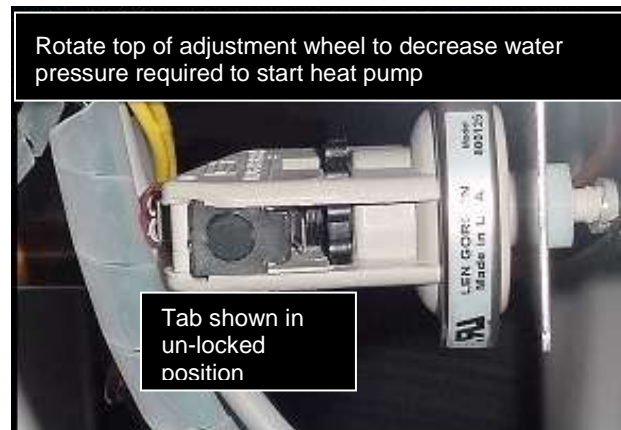
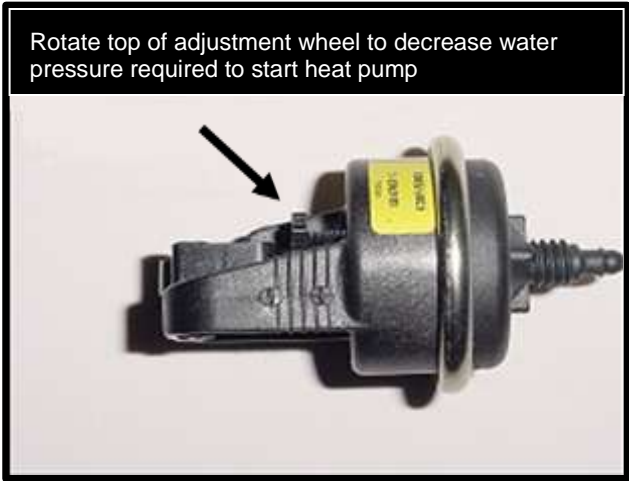

Figure 22
Figure 23
- Identify type of switch to adjust (“Len Gordon” or “TecMark”). To determine which brand pressure switch is installed compare water pressure switch in heat pump to Figure 22 and Figure 23. Follow the adjustment procedure for the appropriate switch.
- 1) Locate black rectangular plastic tab, located on forward-facing side of the switch. See Figure 22. The black rectangle is a wheel lock tab.
- 1) TecMark switches do not have an adjustment wheel lock. See Figure 23.